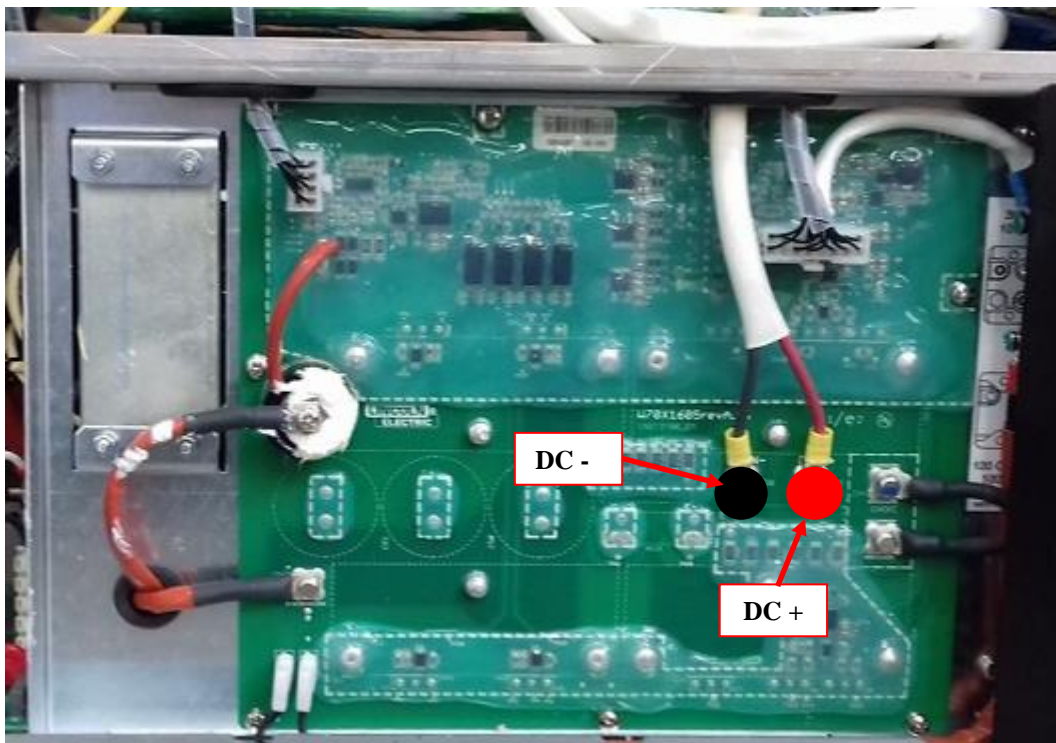

Figure 1 – W05X1605 Inverter Board located on the right side of the machine
11. Locate the two terminals **DC+** and **DC -** on the Caps Board (See Figure 1).